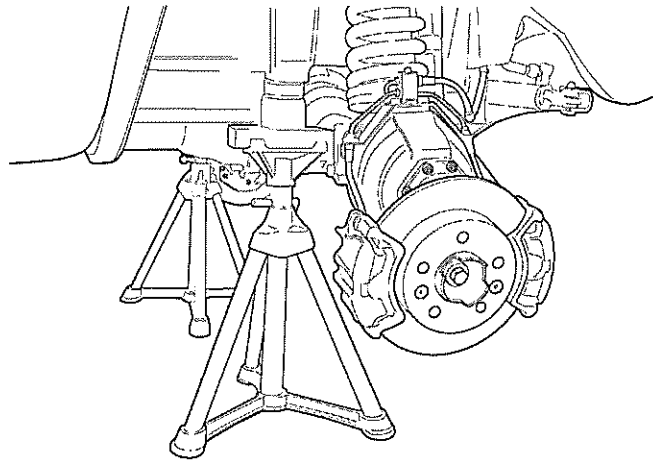

Fig 4 Supporting front body
- 12.1. Lift vehicle with jack on front axle casing until wheels just clear ground. Support vehicle using suitable stands placed under floorpan support rails (see Fig 4).